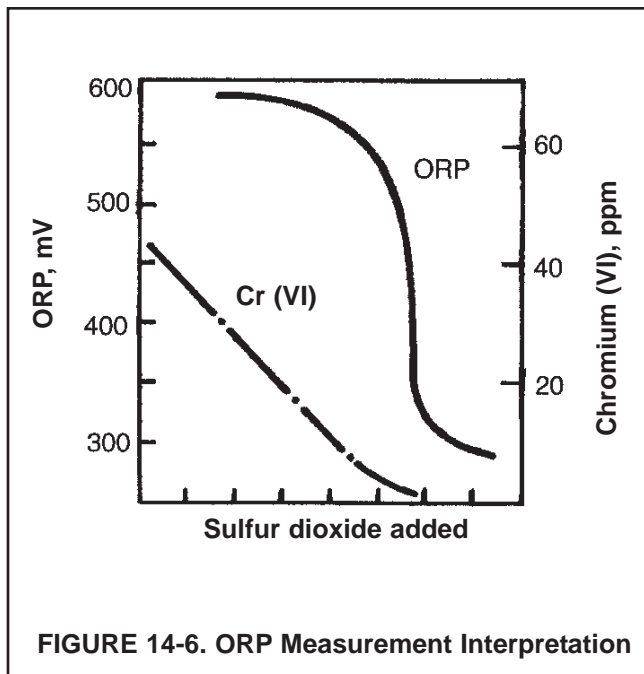

FIGURE 14-6. ORP Measurement Interpretation
- ORP is best used to track changes in concentration or to detect the presence or absence of certain chemicals. For example, in the treatment of wastes from metal finishing plants, chromium (VI) is converted to chromium (III) by treatment with sulfur dioxide. Because chromium (VI) and chromium (III) are a redox couple, ORP can be used to monitor the reaction. As sulfur dioxide converts chromium (VI) to chromium (III), the concentration ratio changes and the ORP drops. Once all the chromium (VI) has been converted to chromium (III) and a slight excess of sulfur dioxide is present, the chromium couple no longer determines ORP. Instead, ORP is controlled by the sulfur dioxide-sulfate couple. When sulfur dioxide reacts with chromium (VI), it is converted to sulfate. Figure 14-6 shows how ORP and the concentration of chromium (VI) change as sulfur dioxide is added. Because the change in ORP at the endpoint is large, monitoring ORP is an efficient way of tracking the process.